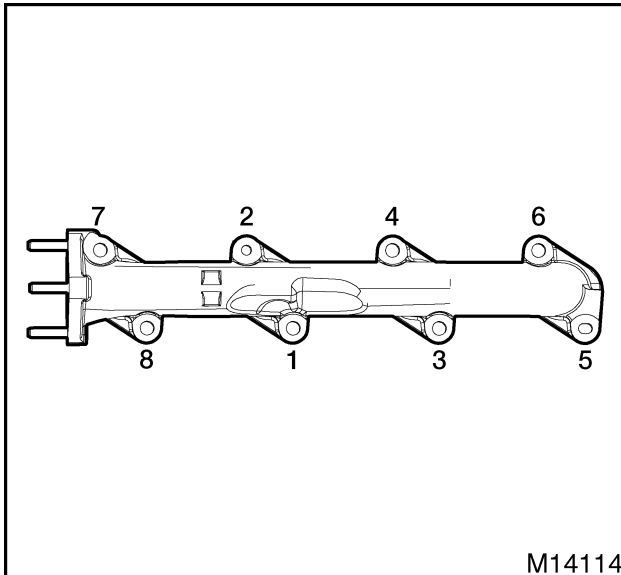

Figure 293 Torque sequence for right exhaust manifold mounting bolts
2. Install four new M8 x 40 exhaust manifold bolts and four new M8 x 40 exhaust manifold stud bolts. Tighten bolts and stud bolts to special torque (page 184) following sequence (Figure 293). Retighten bolts and stud bolts to special torque (page 184) using same sequence (Figure 293).